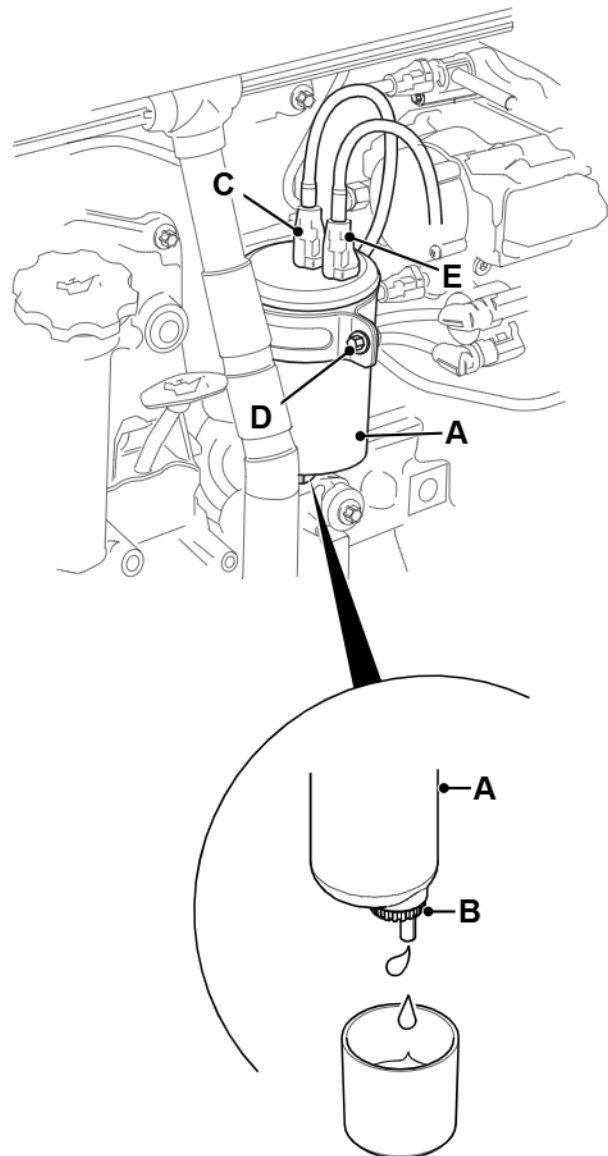

Fig 110.
- 7 Reconnect the fuel lines **C** and **E**. ⇒ Fig 110. \(□ 145\).